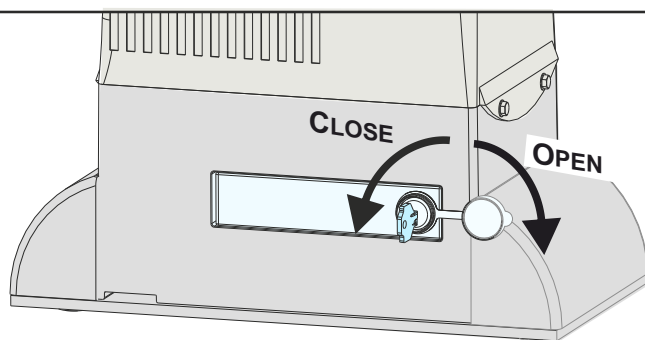

Fig. 32
- Open the lock cover, insert the key and rotate 90° clockwise (Fig. 32)